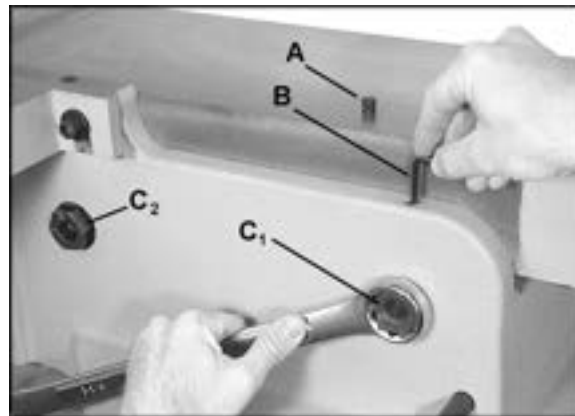

Figure 22
9. Each table has four cam adjustment devices, two in front and two in back. (C, Figure 22 shows one of these).
11. At the area of the table where the adjustment must be made, pry out the cap (A, Figure 22) from the hole.
12. There are two set screws in the hole. Insert a 4mm hex wrench (B, Figure 22) into the hole and loosen the upper set screw by turning the hex wrench counterclockwise. Remove the upper set screw from the hole.
14. Turn the hex nut (C1, Figure 22) with a 1-1/4" wrench. **This adjustment is sensitive and should be made in small increments.**
NOTE: The rotation is different for left and right hex nuts; the right hex nut (C1) being turned in Figure 22 will be turned clockwise to raise that area of the table, or counterclockwise to lower that area of the table. The left hex nut (C2) shown in Figure 22 would be rotated in the opposite manner.
16. When the adjustment is satisfactory, with the tables now coplanar, tighten the lower set screw with the hex wrench (B, Figure 22).
18. Re-insert the cap (A, Figure 22) to keep dust and debris out of the hole.